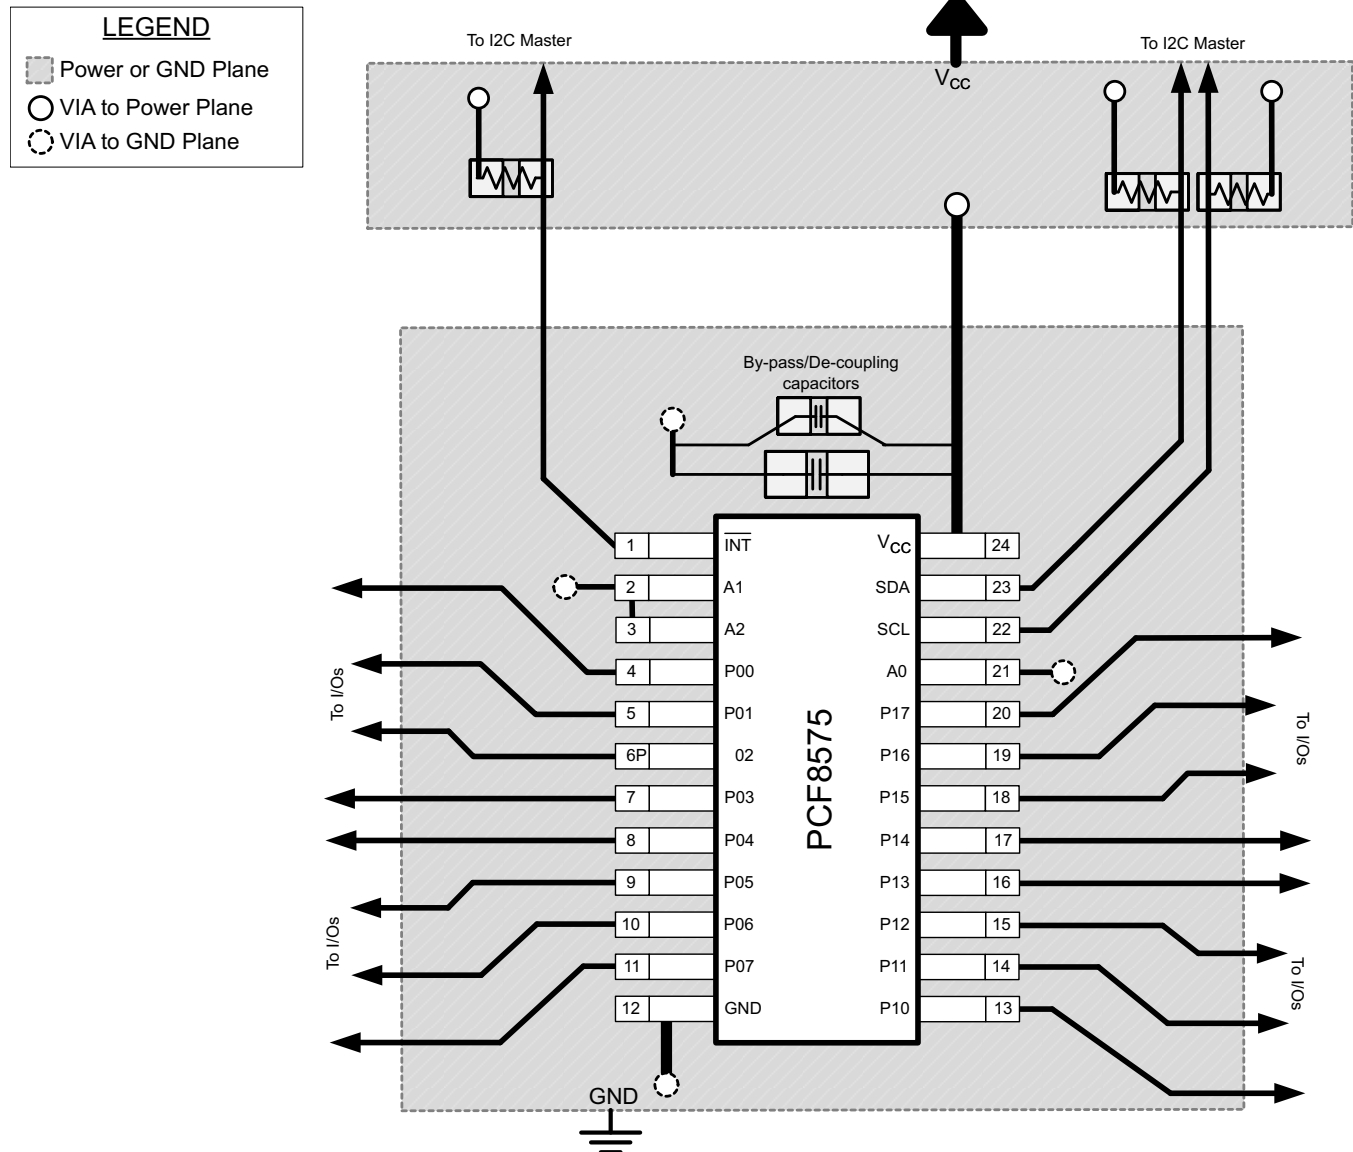

Figure 29. Layout Example for PCF8575
In all PCB layouts, it is a best practice to avoid right angles in signal traces, to fan out signal traces away from each other upon leaving the vicinity of an integrated circuit (IC), and to use thicker trace widths to carry higher amounts of current that commonly pass through power and ground traces. By-pass and de-coupling capacitors are commonly used to control the voltage on the V_{CC} pin, using a larger capacitor to provide additional power in the event of a short power supply glitch and a smaller capacitor to filter out high-frequency ripple. These capacitors should be placed as close to the PCF8575 as possible. These best practices are shown in Figure 29.
For the layout example provided in Figure 29, it would be possible to fabricate a PCB with only 2 layers by using the top layer for signal routing and the bottom layer as a split plane for power (V_{CC}) and ground (GND). However, a 4 layer board is preferable for boards with higher density signal routing. On a 4 layer PCB, it is common to route signals on the top and bottom layer, dedicate one internal layer to a ground plane, and dedicate the other internal layer to a power plane. In a board layout using planes or split planes for power and ground, vias are placed directly next to the surface mount component pad which needs to attach to V_{CC} or GND and the via is connected electrically to the internal layer or the other side of the board. Vias are also used when a signal trace needs to be routed to the opposite side of the board, but this technique is not demonstrated in Figure 29.